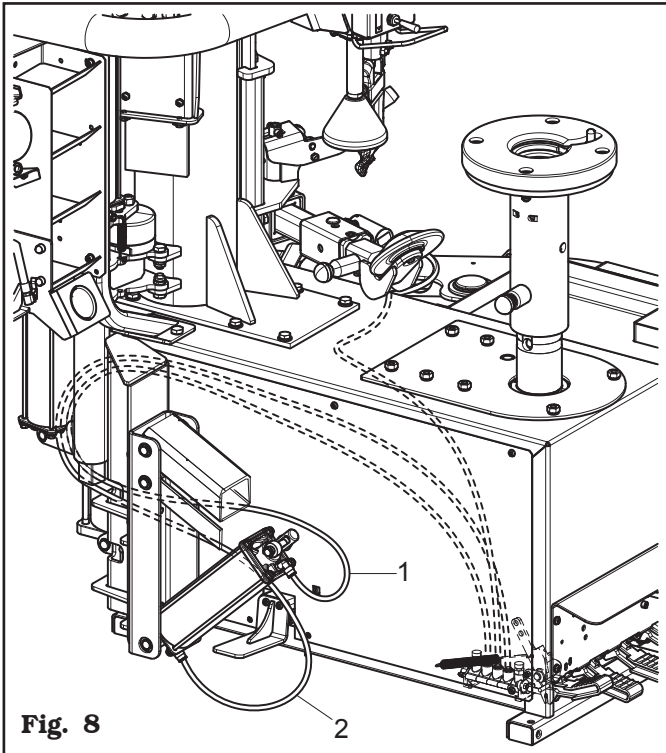

Fig. 8
7. Fix the pneumatic pipes (**Fig. 8 pos. 1-2**) coming from the lifting device pedalboard to the lifting cylinder, as shown in **Fig. 8**.
BEFORE CONNECTING THE PIPES (FIG. 8 POS. 1-2), MAKE SURE THEY PASS THROUGH THE RUBBER FAIRLEAD PLACED ON THE MACHINE BASE AND THE LIFTING DEVICE FRAME.